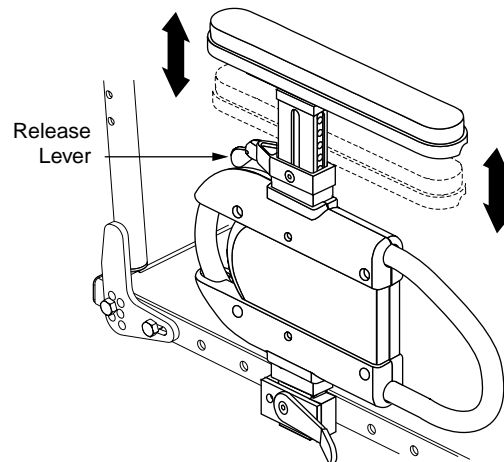

Figure 5. Quick Height Adjustable Drop-in Armrest Top Height Adjustment
The Quick Height Adjustable Drop-in armrests are removable like the Heavy Duty Drop-in armrests. In addition, the armpad can be raised or lowered using a release lever located just below the armpad. See figure 5.
NOTE: Both the adult and pediatric Quick Height Adjustable Drop-in armrests use the same armrest lock as the Heavy Duty Drop-in armrests. The procedures for removal and position adjustment are the same. See figures 5 and 6.
1. Twist the release lever inward or outward. See figure 5.